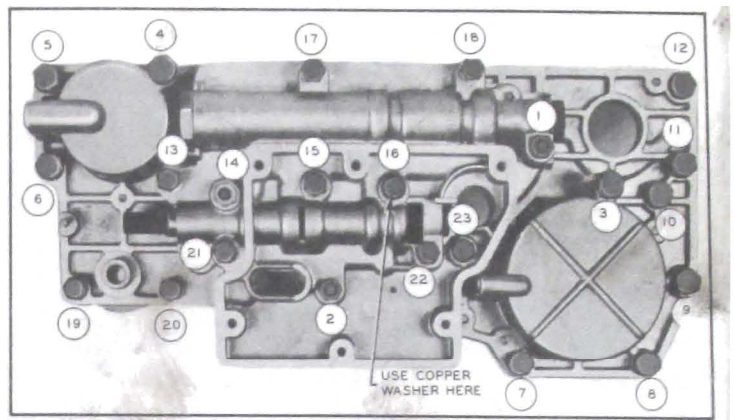

Figure 5-99—Valve and Servo Body Bolt Tightening Sequence
washers according to depth of holes through valve and servo bodies. Use copper washer on bolt indicated in Fig. 5-99.
5. Tighten all bolts to 5 ft. lbs. torque in the numerical sequence shown in figure 5-99. Repeating the same sequence, tighten all  $\frac{1}{4}$ " bolts and nuts to 11-15 ft. lbs. torque and all  $\frac{5}{16}$ " bolts to 15-20 ft. lbs. While tightening bolts and nuts adjacent to the shift control valve, operate the valve to make certain that it is not binding—it may be necessary to adjust some bolts to low limit on torque to prevent valve binding.